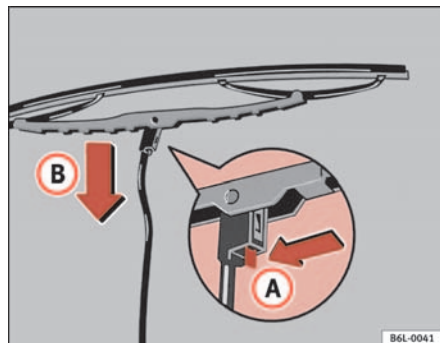

Fig. 126 Change windscreen wiper blade
- Press the retaining spring in direction of the arrow **A** ⇒ fig. 126.
- Unhook wiper blade in direction of arrow **B** ⇒ fig. 126 and remove it from the wiper arm in the opposite direction.